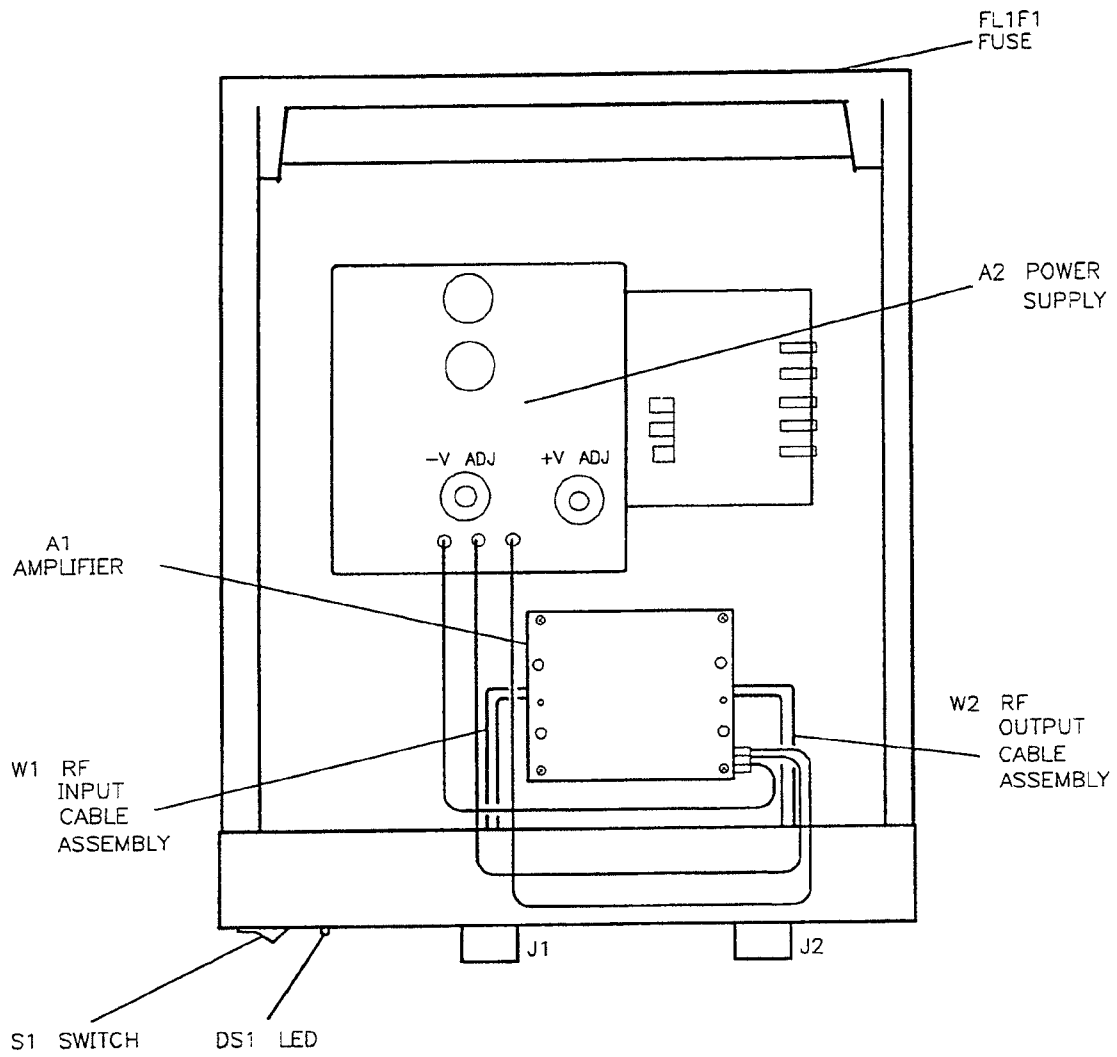

Figure 5-1. HP 8449A and HP 8449B Parts Locations
Figure 5-1 identifies the replaceable amplifier microcircuit and the power supply. Table 6-2 specifies the tool sizes to use in removing and reinstalling the replaceable assemblies and the associated torque values.
2. Measure the power supply output voltages on the amplifier microcircuit. See Figure 5-1.
This chapter provides information on identifying and ordering all replacement parts and assemblies. The replaceable parts are listed in Table 5-1 and their locations are identified in Figure 5-1.